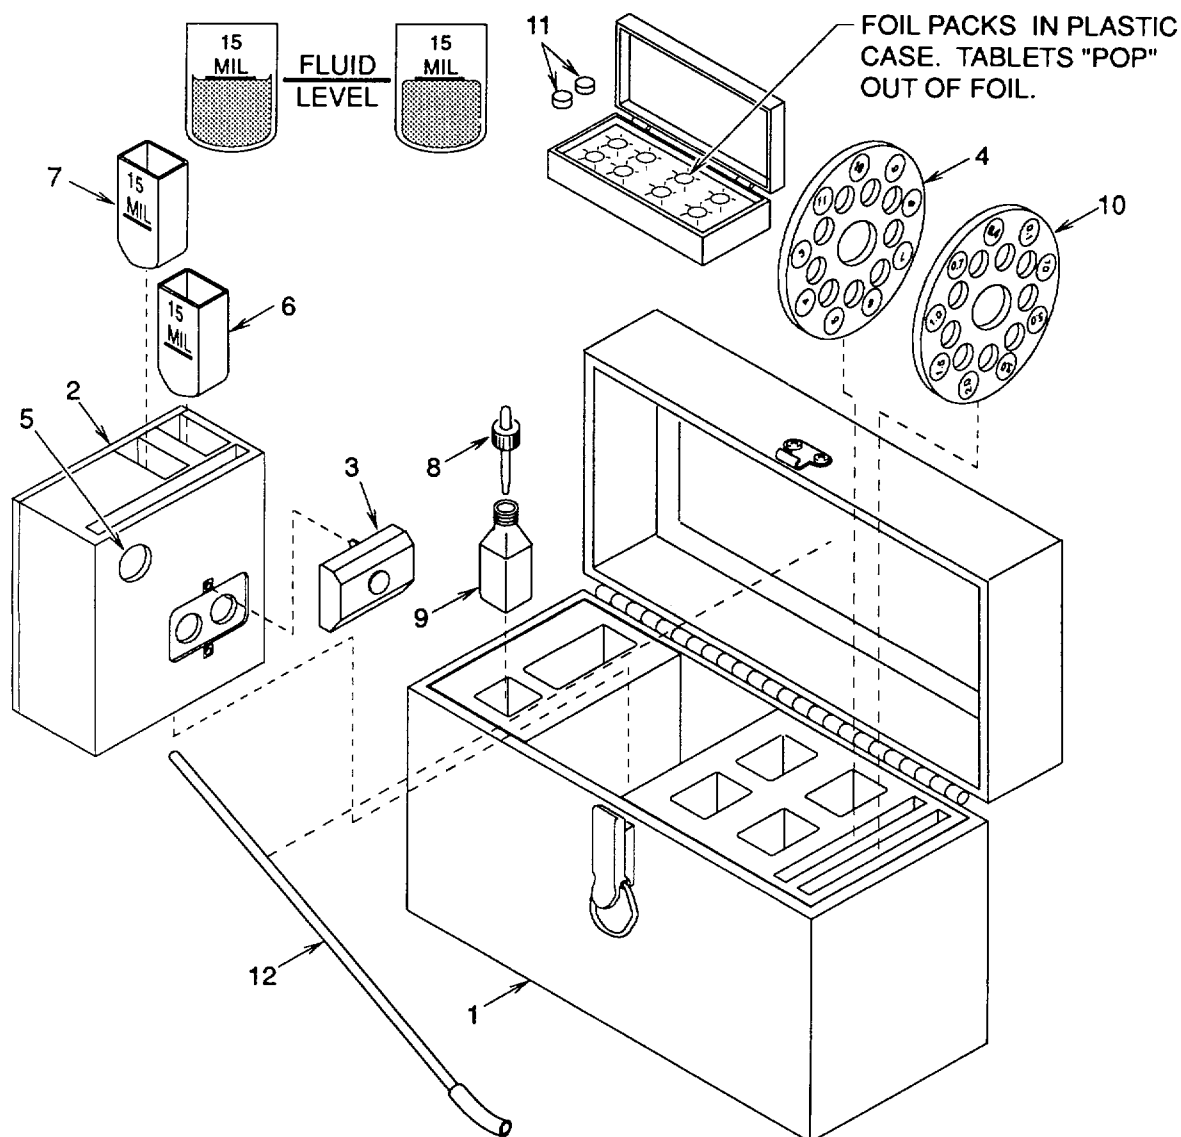

Figure 2-14. pH/Chlorine Test
- b. Unlatch and open carrying case (1) cover. Remove comparator housing (2) and eyepiece (3). Fit eyepiece onto housing. See figure 2-14.
- (1) Perform the pH test.
- (a) Remove color disk (4) (pH) and insert into housing (2). Numbers must be visible through indicator window (5).
- (b) Rinse two comparator cells (6) and (7) three times with water being tested.
- (c) Fill two comparator cells (6) and (7) as indicated up to mark 0.51 oz (15ml) with water to be tested and insert into housing (2).
- (d) Fill the dropper (8) of the wide range indicator solution (9) to mark 0.169 oz (0.50ml) with solution.
- (e) Add the wide range indicator solution from the dropper (8) to the comparator cell (7) on the left. Use sufficient force to mix solution.